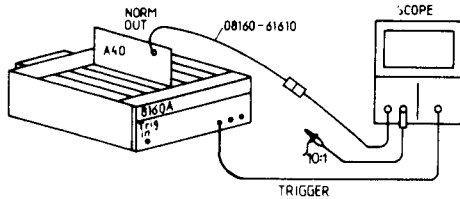

Figure 5-17
2. Turn A140 R127 fully ccw and R142 cw, and connect scope as shown in Figure 5-17. Terminate slope output with 50 ohm, and set scope DC-coupled, ext. trigger, ALT, time base 10 μ s/div.